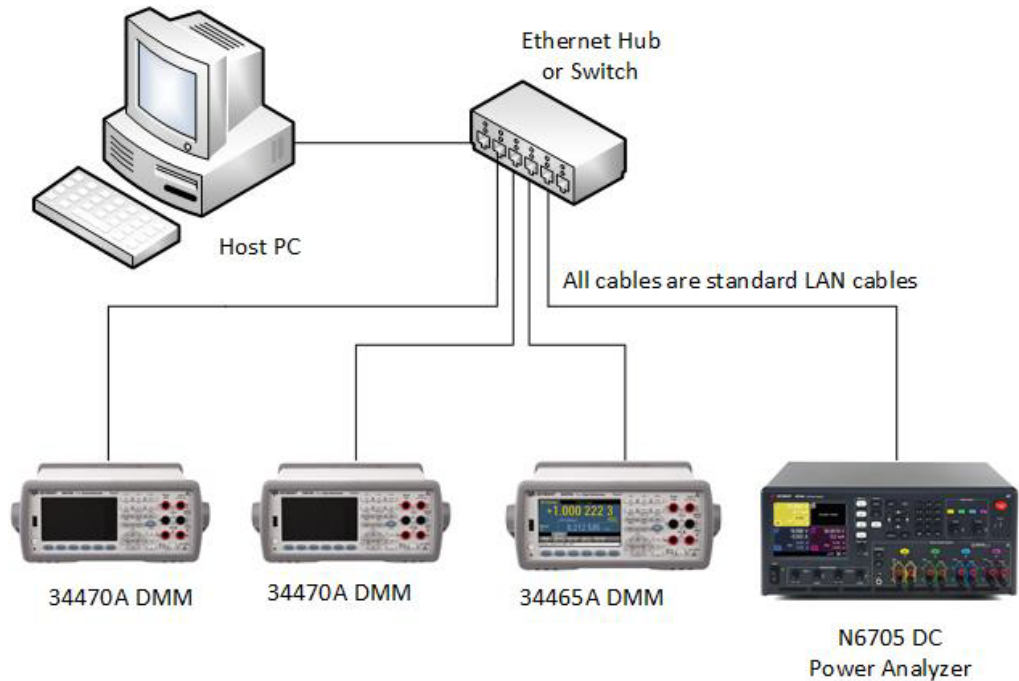

Figure 4 Connect Instruments and PC to an Ethernet Switch (not supplied)
- 3 Use five standard Cat5 Ethernet LAN cables (not supplied) to connect each instrument and the PC to the Ethernet Switch. See Figure 4 below.